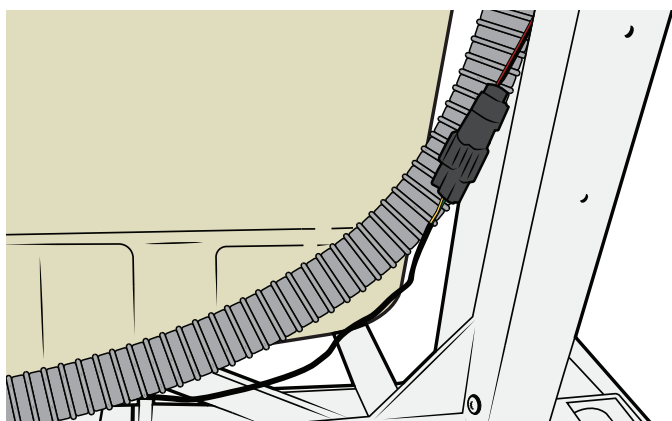

Figure 57
34. Cut the cable ties and disconnect the connector for the temp sensor. See Figure 57.